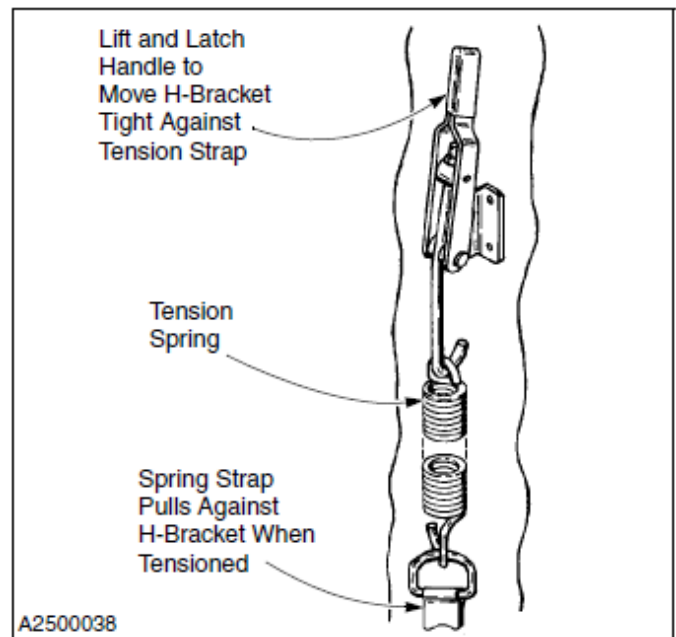

Figure 72
6. Tighten the tension strap by placing the spring release handle in the latched position. Tension is locked in place when the handle is all the way back and latched. (See Figure 72)